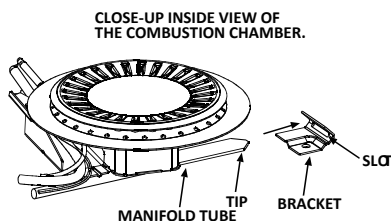

Figure 23.
3. Insert the new manifold/burner assembly into the burner compartment, making sure that the tab of the manifold tube engages the slot of the bracket inside the combustion chamber. See Figure 23.